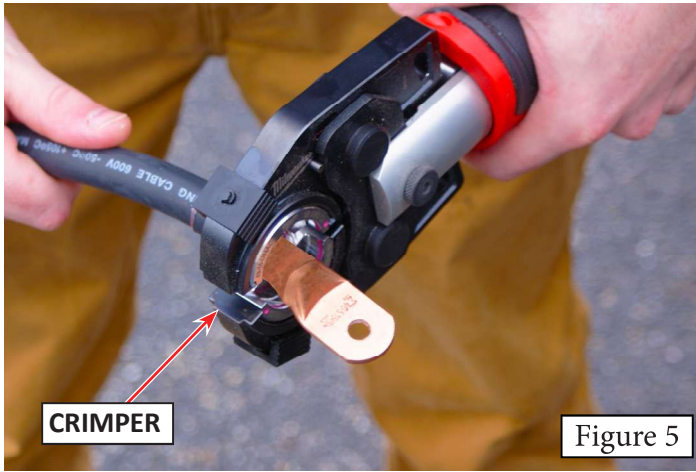

Figure 5
- Strip approximately 1" of insulation from the two ends of the ground cable and install 4/0 terminal ends on each. Crimp them securely using a power crimper or equivalent (Figure 5). Wrap electrical tape around the terminals to insulate.